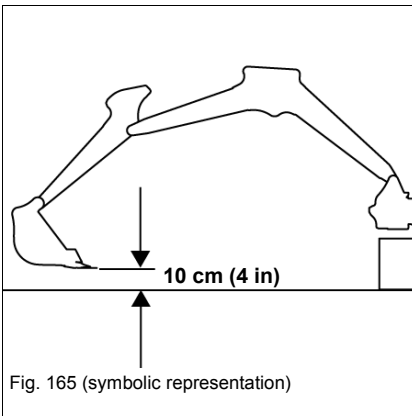

Fig. 165 (symbolic representation)
5. Position the boom as shown in Fig. 165.